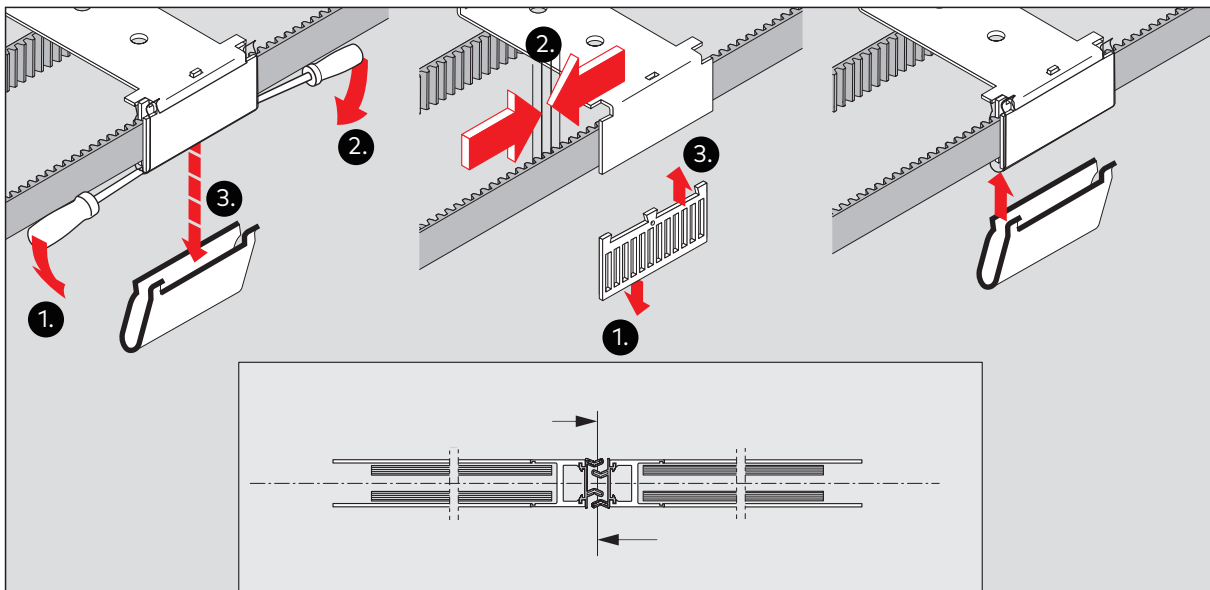

Fig. 91 Correcting major discrepancies between main closing edge and center point
4. If necessary, shift the toothed belt one or more teeth further as shown in Fig. 91.